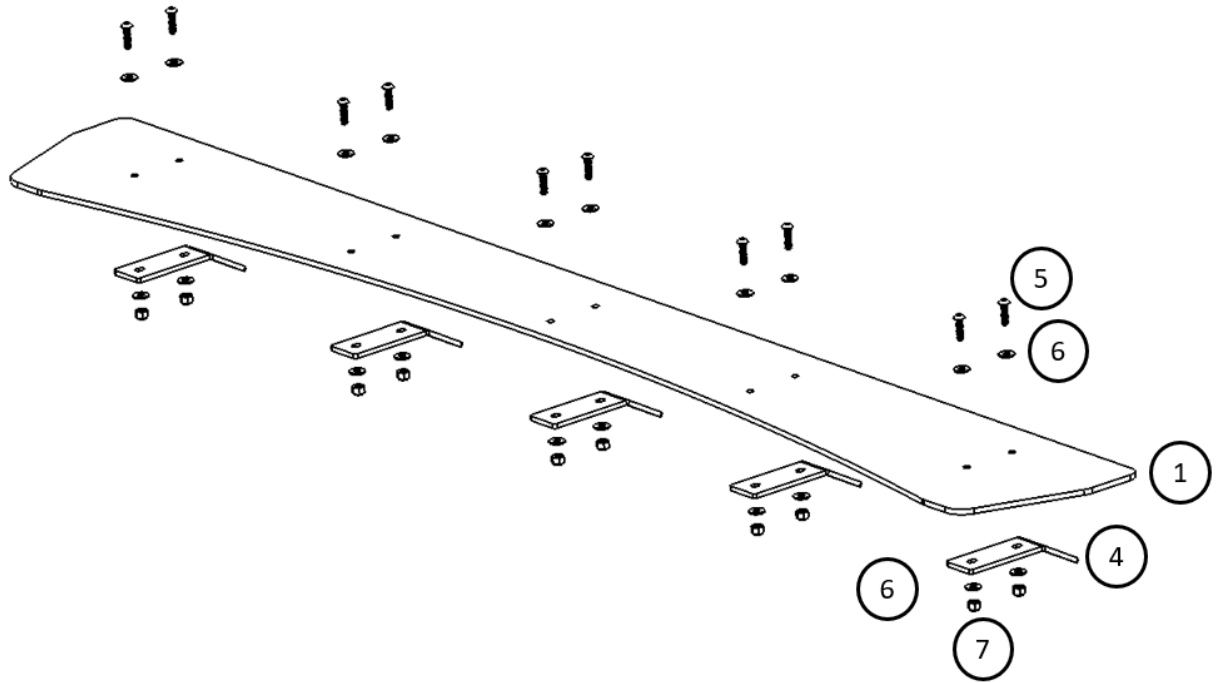
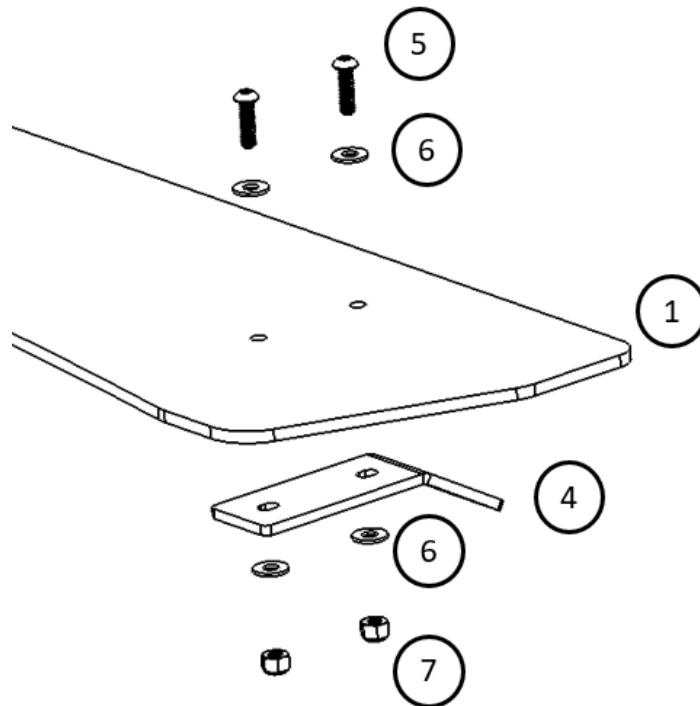

Figure 6: Ram ProMaster Wind Fairing Part Breakdown
Figure 7: Detailed view showing assembly hardware sequence
2. Bolt the wind fairing brackets to the wind fairing using the assembly hardware provided (Items 5, 6, and 7). This is shown in Figure 6 and again but larger in Figure 7. Since the nut used is a nylock nut, no Loctite is required
2. Bolt the wind fairing brackets to the wind fairing using the assembly hardware provided (Items 5, 6, and 7). This is shown in Figure 6 and again but larger in Figure 7.